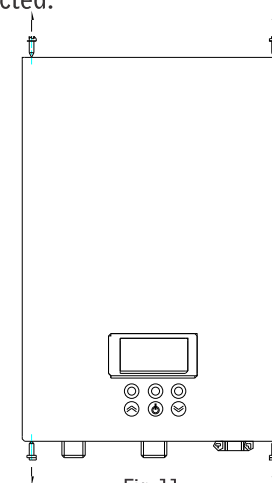
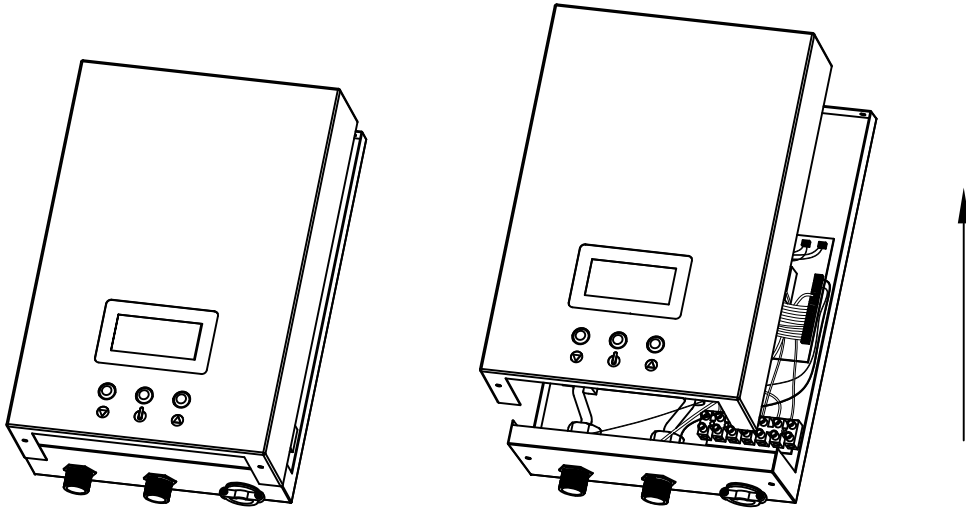

Fig. 11
Fig. 12
Remove (4) screws and washers (Fig 11) from the unit to free the front cover. Carefully lift the front cover off the unit a few inches. Disengage the ribbon cable connecting the front cover LCD panel to the main control board or the unit (Fig 12). Remove the cover completely.